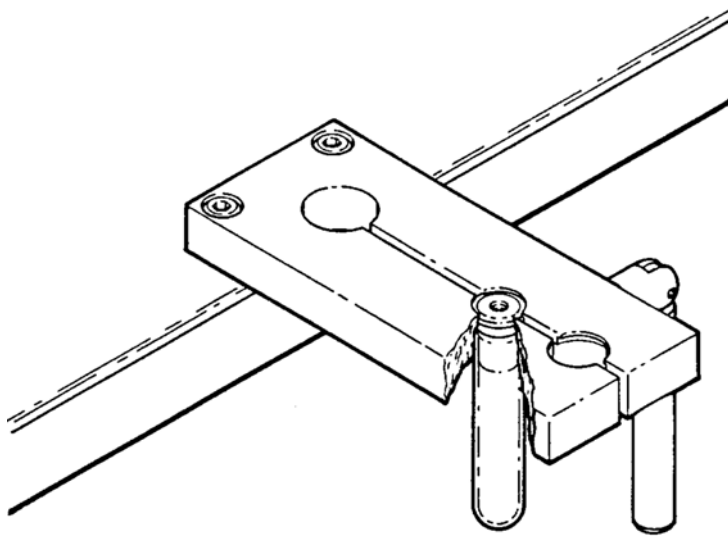

Figure 2-5. Using the Tube Cap Vise (Optional Sealing Assembly)
9. Place the tube assembly into the tube vise, PN 52176 from the bottom, as shown in figure 2-5. Tighten the vise securely.
3. Place the tube assembly in the tube cap vise from the bottom as shown in figure 2-5. Tighten the vise securely.